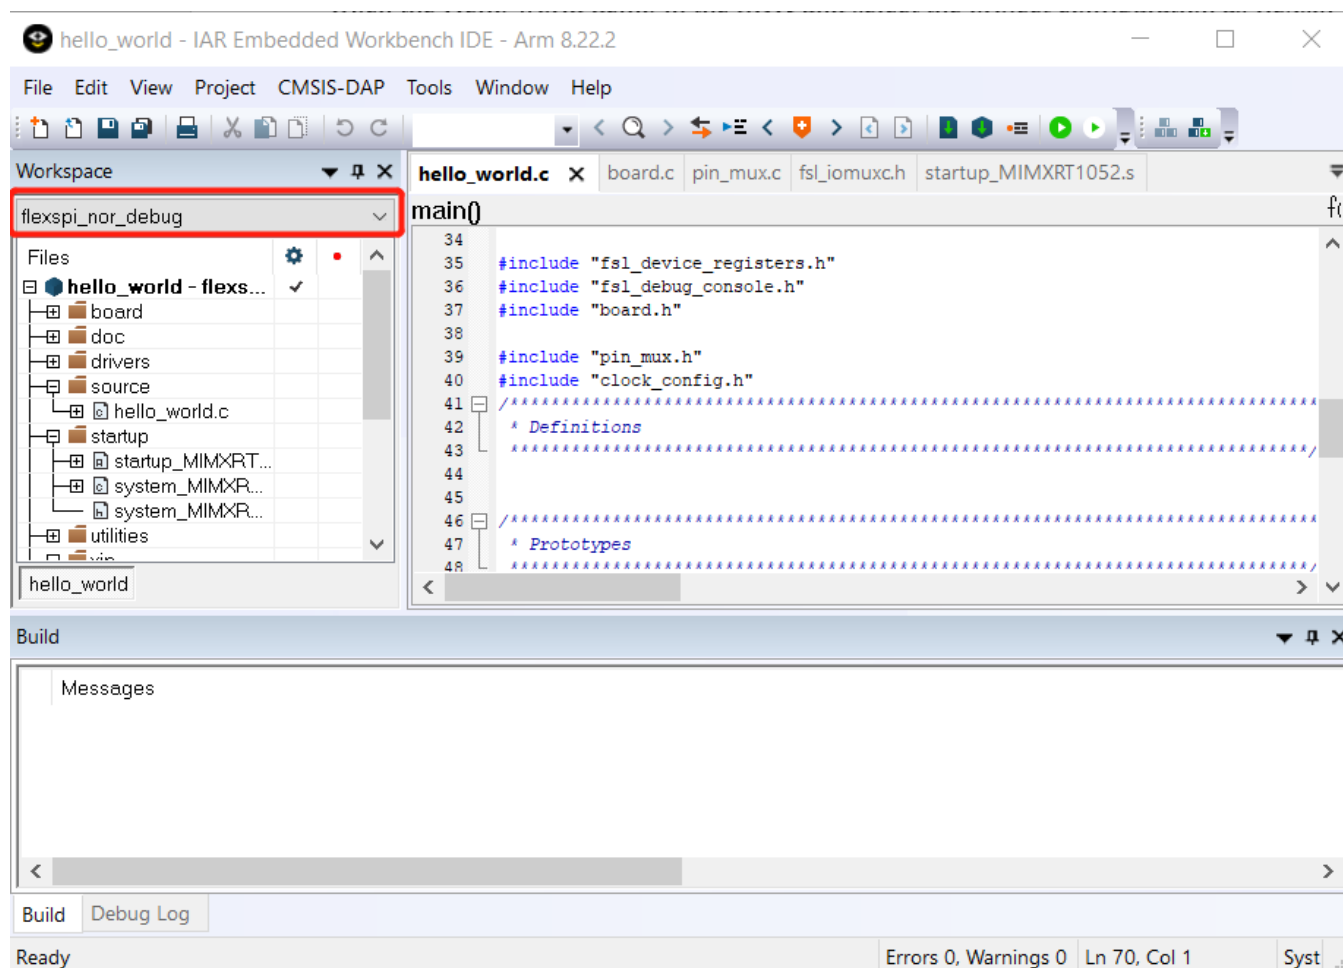

Figure 4. Select the project configuration as flexspi_nor_debug
- Open the Hello world demo in the SDK and select the project configuration as flexspi_nor_debug.(Figure 4).